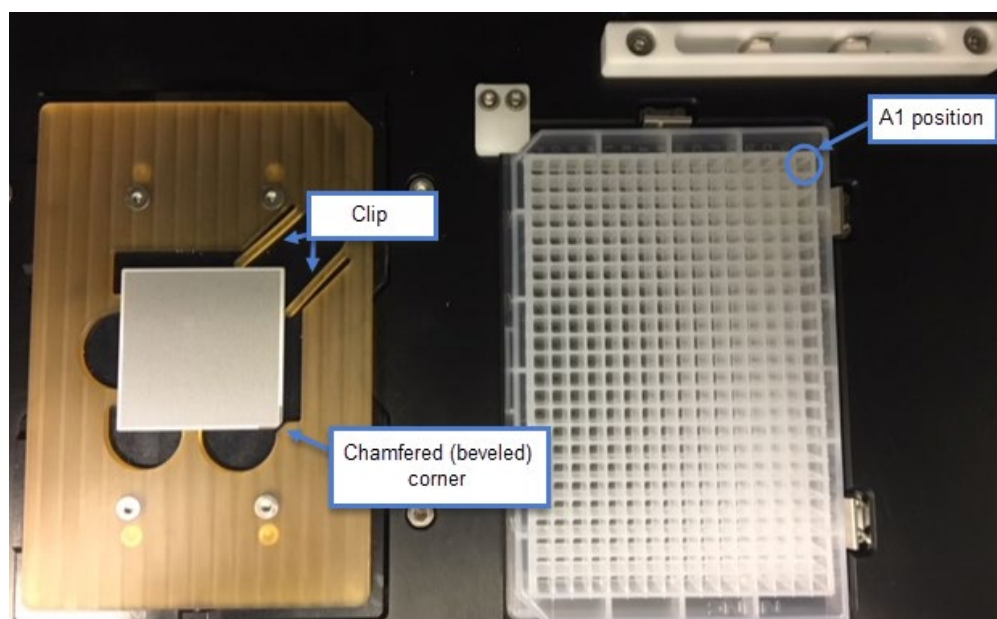

Figure 3. ICELL8 cx Single-Cell System Stage Module. (Left) chip nest. (Right) source plate nest.
- All dispensing steps in the ICELL8 cx Single-Cell System Stage Module should be performed with a 384-Well Source Plate oriented with the A1 well positioned at the top-right corner of the 384-well plate nest (Figure 3). The source plate must be fully seated. This may be accomplished by pushing the source plate down after it has been placed on the plate nest.
- All dispensing steps in the ICELL8 cx Single-Cell System Stage Module should be performed with the Single-Cell 350v Chip oriented with the chamfered (beveled) corner positioned towards the bottom-right corner of the chip nest (Figure 3).